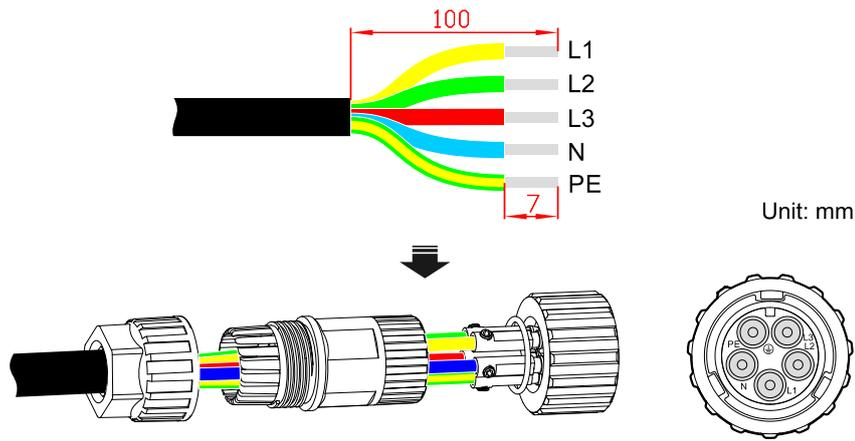

Figure3-42 Connect the AC connector
Step 2 Prepare load connector, as shown in Figure3-42.